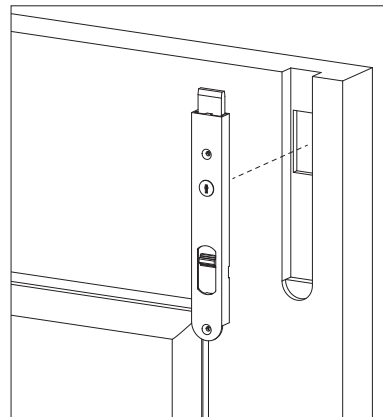

Figure 3.
3.5. Mark the centre point of the locking mechanism and create a W32mm x H55 x D6mm cavity to accommodate lock portion of the bolt. (Figure 3).